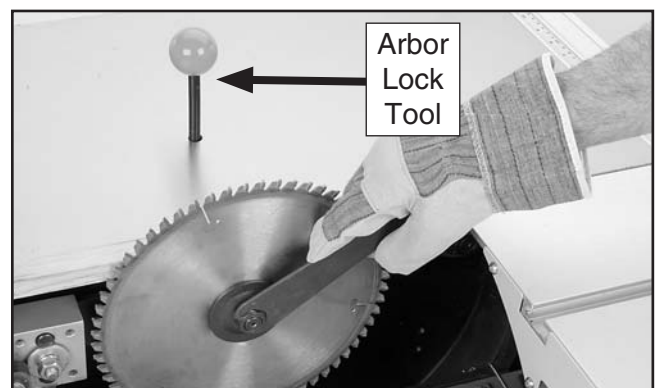

Figure 21. Installing main blade.
- Insert the arbor lock tool into the hole shown in **Figure 21**, rotate the arbor until the arbor lock tool seats, then install the main blade per the instructions on **Page 35** as a guide.